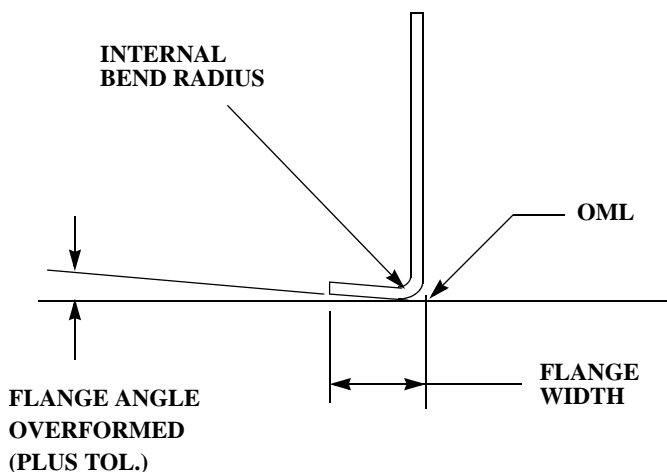

FIGURE 7: FORMED FLANGE (Typ)
- 3.4.1. Refer to Table 2 for the maximum allowable deviation on formed flange angles. Refer to Figure 7 for general description of a typical formed flange.